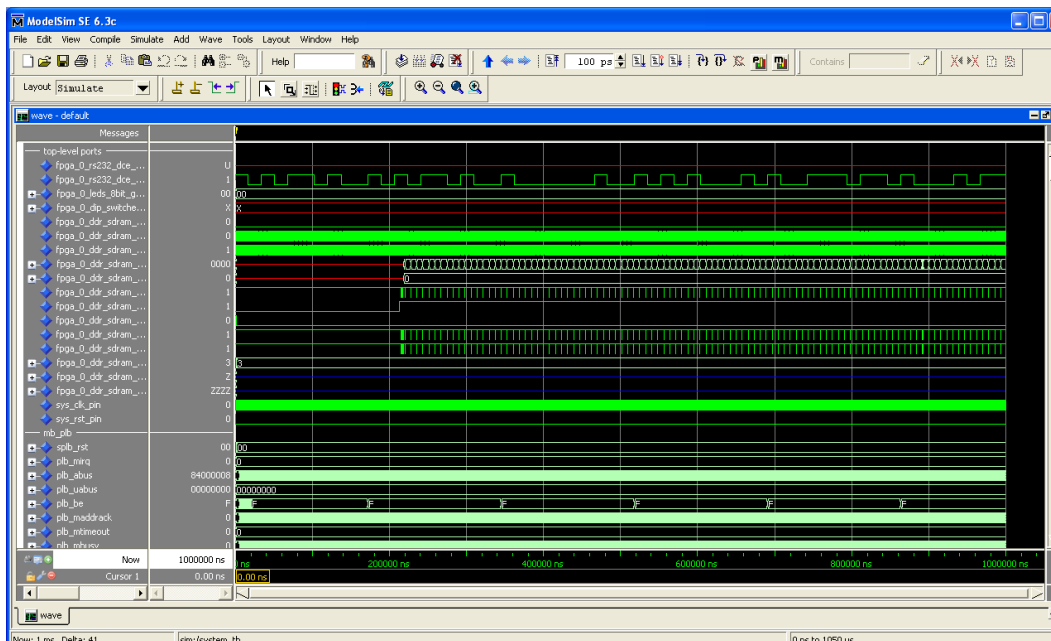

Figure 19: Modelsim - Simulation Output
- Enter the command **run 1 ms**. This will start the simulation of the MicroBlaze system for 1 ms. After the simulation complete the waveform window will show the changes in all the selected signals of the system. **Click the Plus button** at the top right corner of the waveform window to maximize the view. The results should look like Figure 19.
Compare the resulting waveform of the timing simulation to waveform of the behavioral simulation (Figure 19). Notice the timing differences in each input/output signals of the system. The results of the timing simulation is the closest to the actual implementation on board. If simulation results show something wrong in the system performance, this will be the same when the system is implemented on the board.